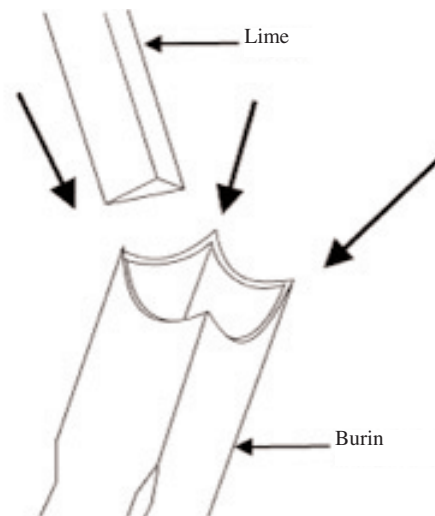

Figure 9
3. Use a small, triangular, smooth file to relieve the inner corners of the chisel. See Figure 9.